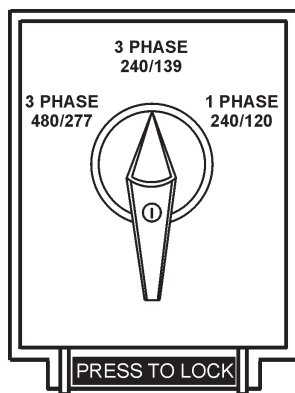

Figure 14. Voltage Change-Over Board
A wide range of voltages are available to supply voltage for many different applications. Voltages are selected by using the **voltage selector** switch (Figure 14). To obtain some of the voltages as listed in Table 7 (see below) will require a fine adjustment using the **voltage regulator (VR) control knob** located on the control panel.
The voltage selector switch (Figure 14) is located above the output terminal panel's Hard Wire Hook-up Panel. It has been provided for ease of voltage selection.